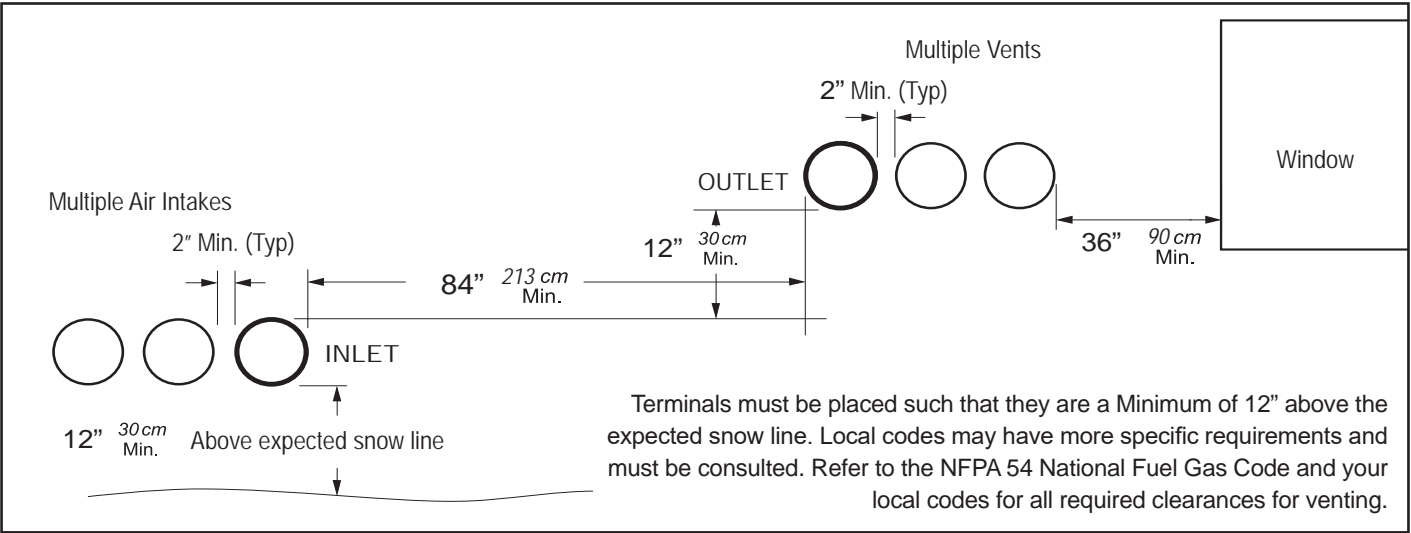

Figure 3. Minimum Venting Distance for Single and Multiple Units. Category III only
4. If the unit is side-wall vented to the same wall as it's ducted combustion air, use Figure 3 on page 22 to determine the proper mounting locations.
5. Multiple vent kits should be installed such that the horizontal distance between outlet group and inlet group is 84" (213 cm). (See Figure 3)
6. The vent outlet must be at least 12" above the top of the air inlet, and must be at least 84" (213 cm) horizontally from the air inlet. (See Figure 3).